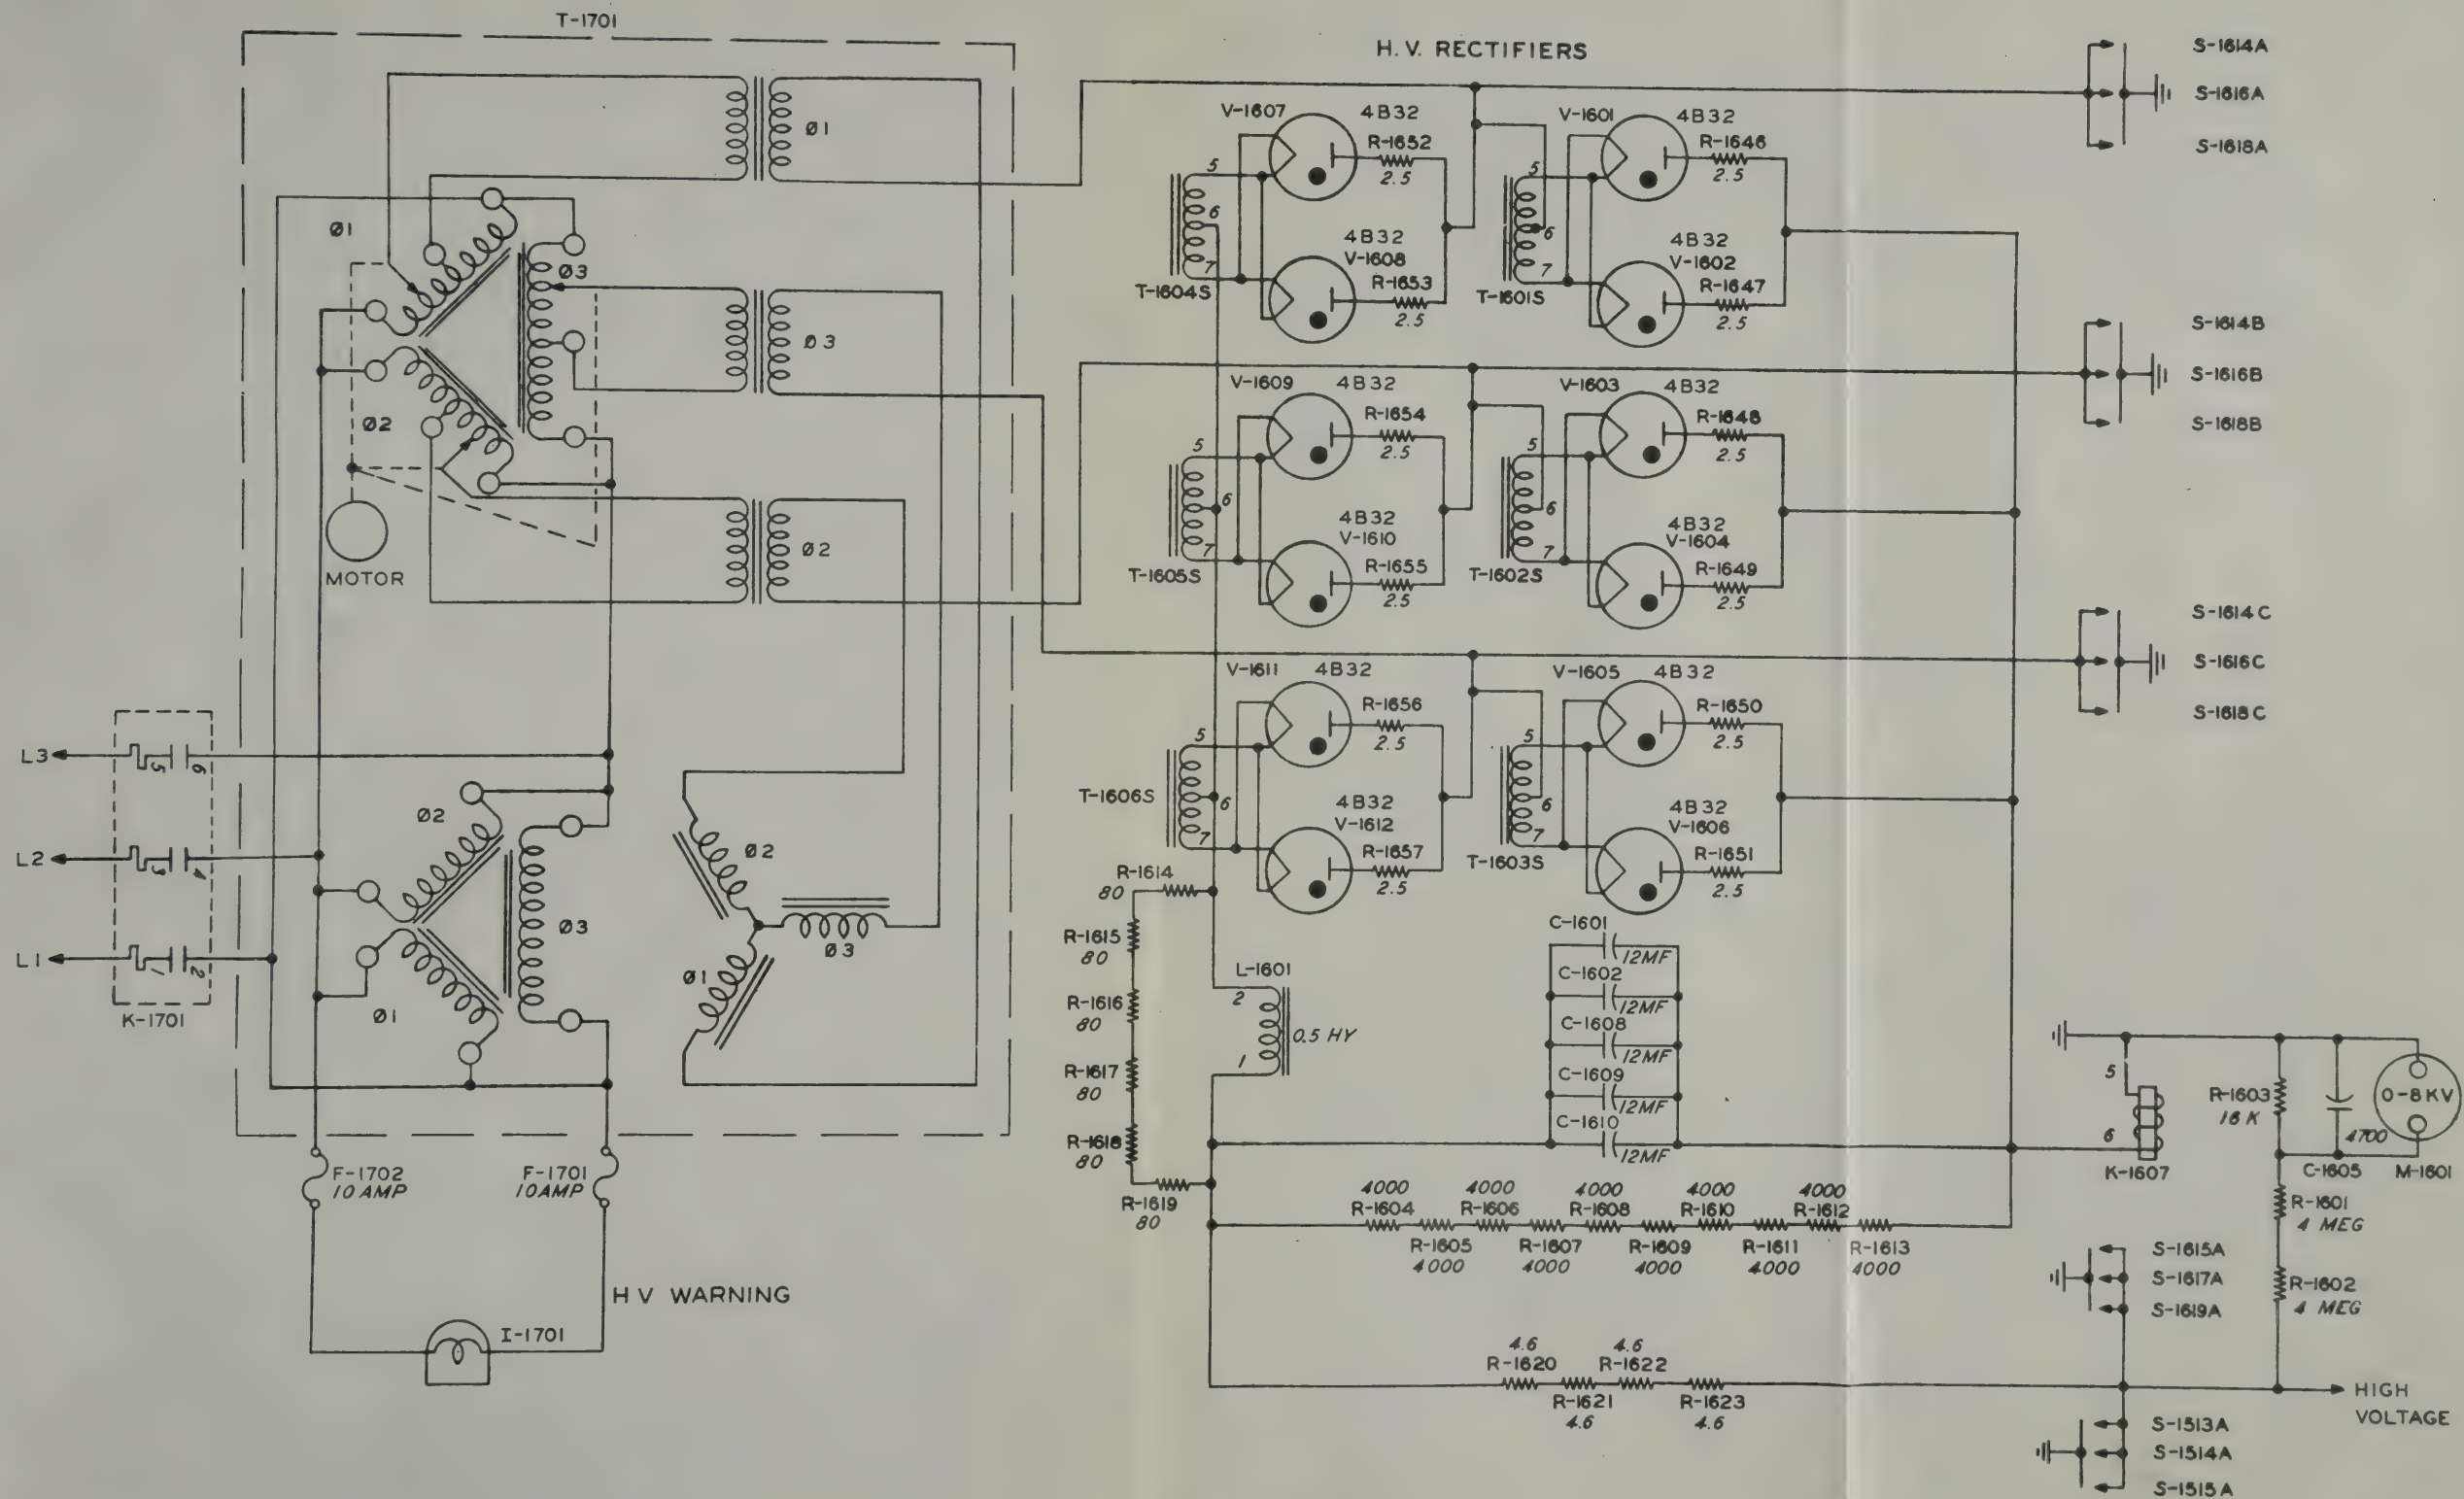

Figure 128. Power Supply Assembly PP-1089/FRT-22, High-Voltage Supply, Schematic Diagram.
- (2) *High-voltage d-c supply (fig. 128).*
- (b) The filament voltage of the rectifier tubes in the high-voltage supply of Power Supply Assembly PP-1089/FRT-22 is 60° or 120° out of phase with the plate voltage. As mentioned under paragraph c. (3) (c) above, this allows the rectifiers to operate at nearly double their rated current because the plate current pulse flows during the time that there is very little difference in voltage between the ends of the filaments. This allows a uniform distribution of the emission current from the filaments.
(d) Figure 128 shows that the transformer secondary is wye-connected. In series with each of the three power leads from the wye is an additional series secondary winding. The primary of the transformer is composed of two delta-connected primary windings in parallel. One of the delta windings is associated with the wye-connected secondary and provides the high voltage. The buck-boost feature is introduced by the series secondary windings and the other primary winding. These series secondary windings are excited from another set of primary windings which receive their operating voltage from taps on the delta-connected primary. This excitation voltage is varied, both in magnitude and phase, by motor-operated taps on the delta-connected primary. One end of each of the exciting windings is connected to the center taps of the three phases of the delta-connected primary, and the other end of each of the exciting windings is connected to the motor-operated variable tap on each of the delta-primary legs. These taps vary the phase and the magnitude of the voltage of the exciting windings according to how far the tap is from the primary center tap and on which side of the primary center tap the variable tap is located. This power transformer is rated at 73 kva.